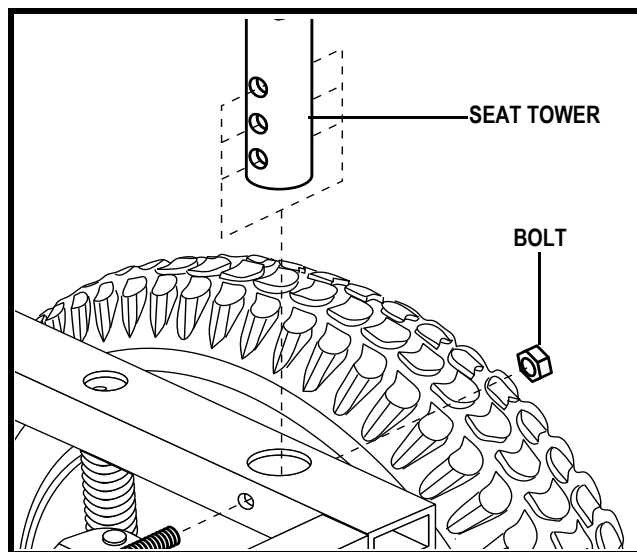

Figure 11. Seat Height and Angle Adjustment
8. Remove the bolt that fastens each of the four seat towers to the frame. See **figure 11**.